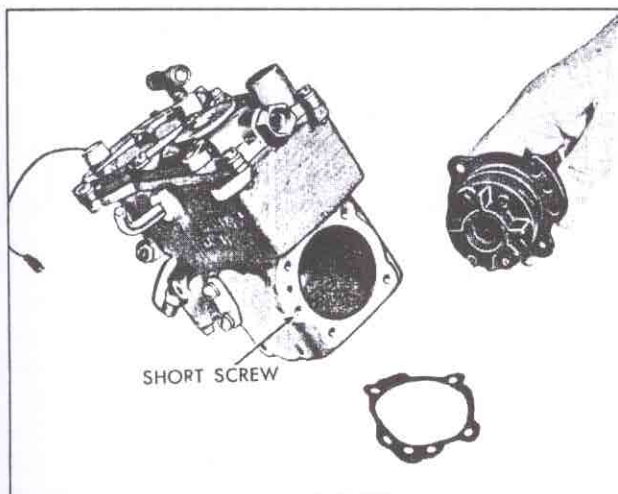

Fig. 155—Installing Fuel Valve Fuel Pump
21. Using a new gasket held in place with light engine oil, carefully position the high pressure fuel pump into the fuel meter and secure with five screws and lockwashers (fig. 155).
**NOTE: One screw is shorter and must be installed in hole at 9 o'clock position (fig. 155).**